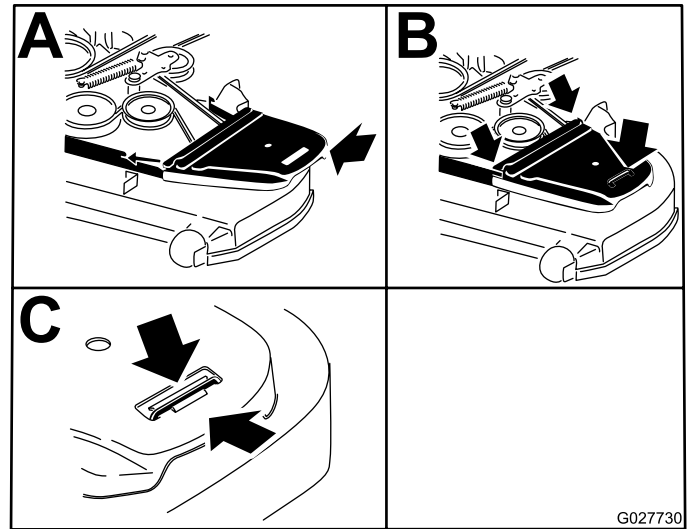

Figure 92
9. Rotate and ensure the belt-guide tab hits against the pivot hub (Figure 92).
11. Install the belt covers (Figure 92).